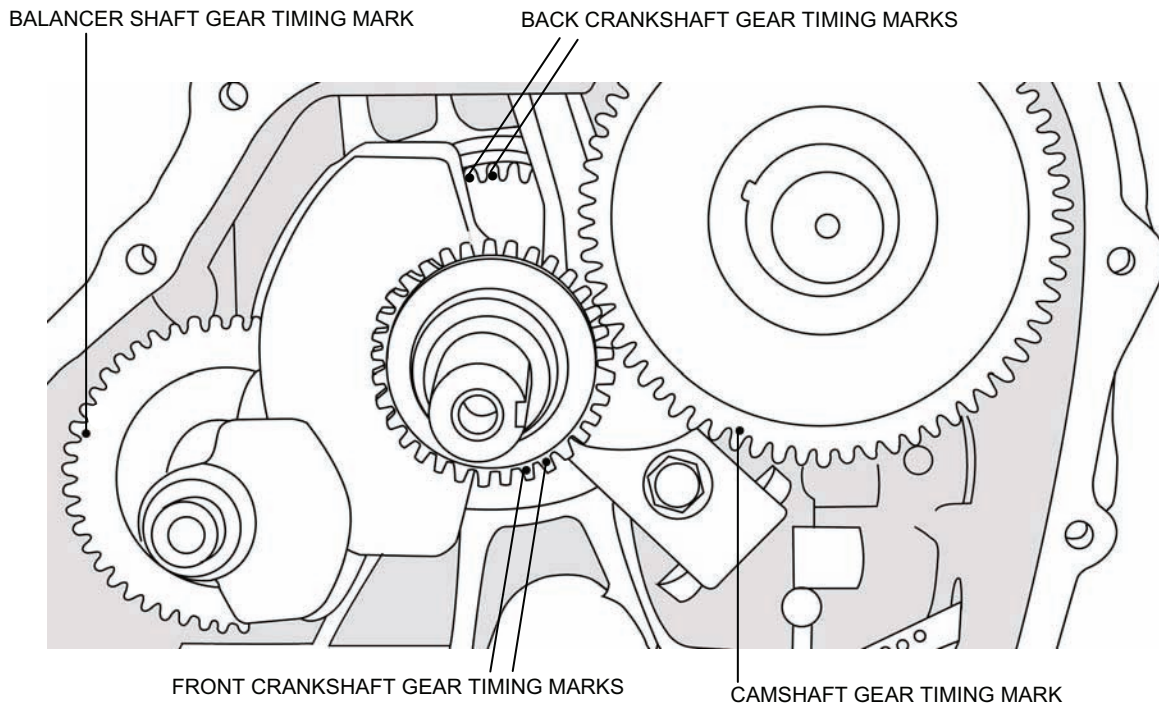

Figure 10. Crankshaft, Camshaft, and Balancer Shaft Timing Marks.
12. Insert the camshaft. Make sure the single alignment mark on the camshaft gear is positioned between the two alignment marks on the front crankshaft gear. Rotate the crankshaft if necessary to ensure the marks are properly matched (see Figure 10).
13. Insert the balancer shaft. Make sure the alignment mark on the balancer shaft gear matches the alignment marks on the back crankshaft gear. Rotate the crankshaft if necessary to ensure the marks are properly matched (see Figure 10).